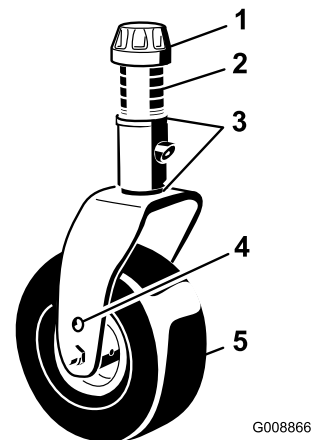

Figure 121
1. Remove the tensioning cap from the spindle shaft and slide the spindle out of the caster arm (Figure 121).